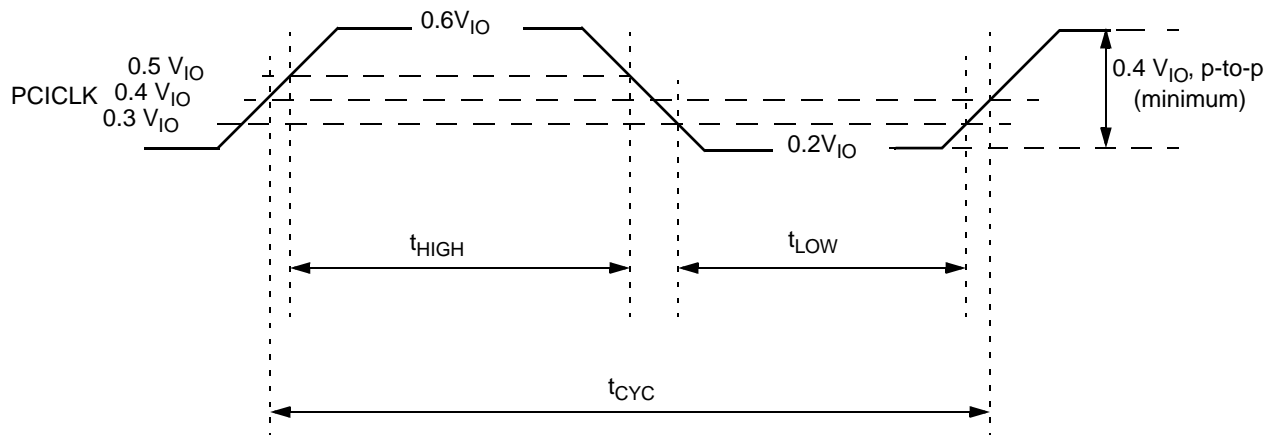

Figure 7-12. PCICLK Timing and Measurement Points
3. Slew rate must be met across the minimum peak-to-peak portion of the clock waveform (see Figure 7-12).